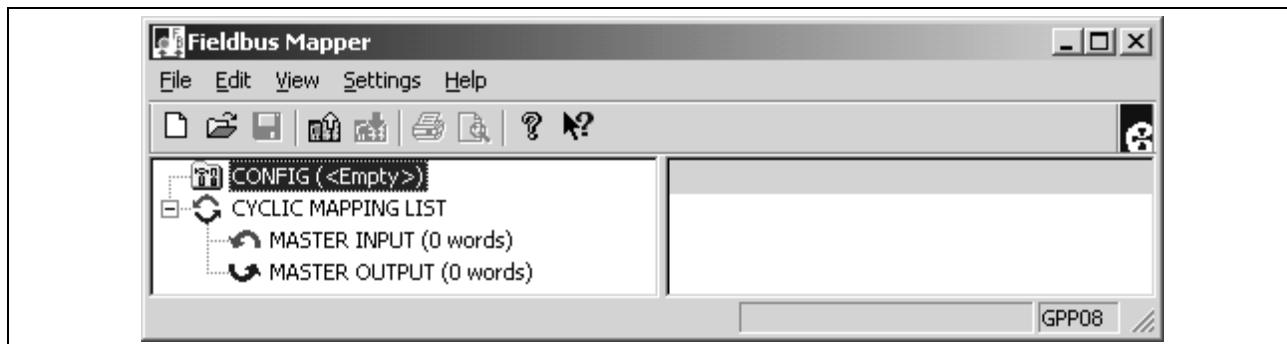

Fig. 7-5: Fieldbus Mapper Main Screen (Blank)
2. Select **Commission** ⇒ **Fieldbus Mapper**. The main Fieldbus Mapper screen appears (refer to *Fig. 7-5* below).